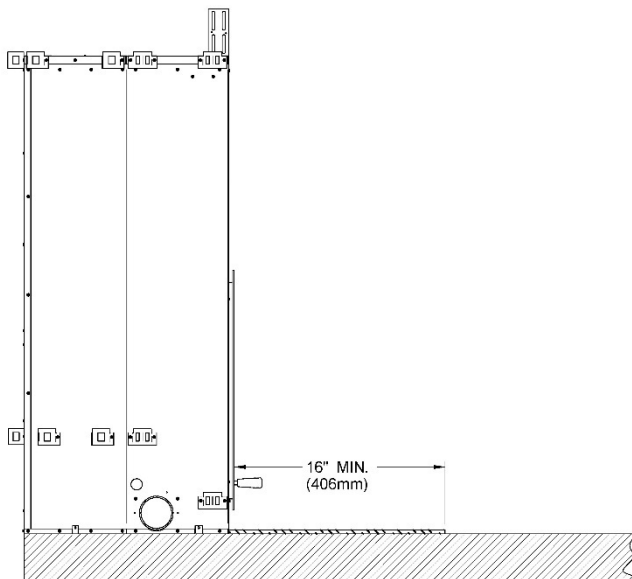
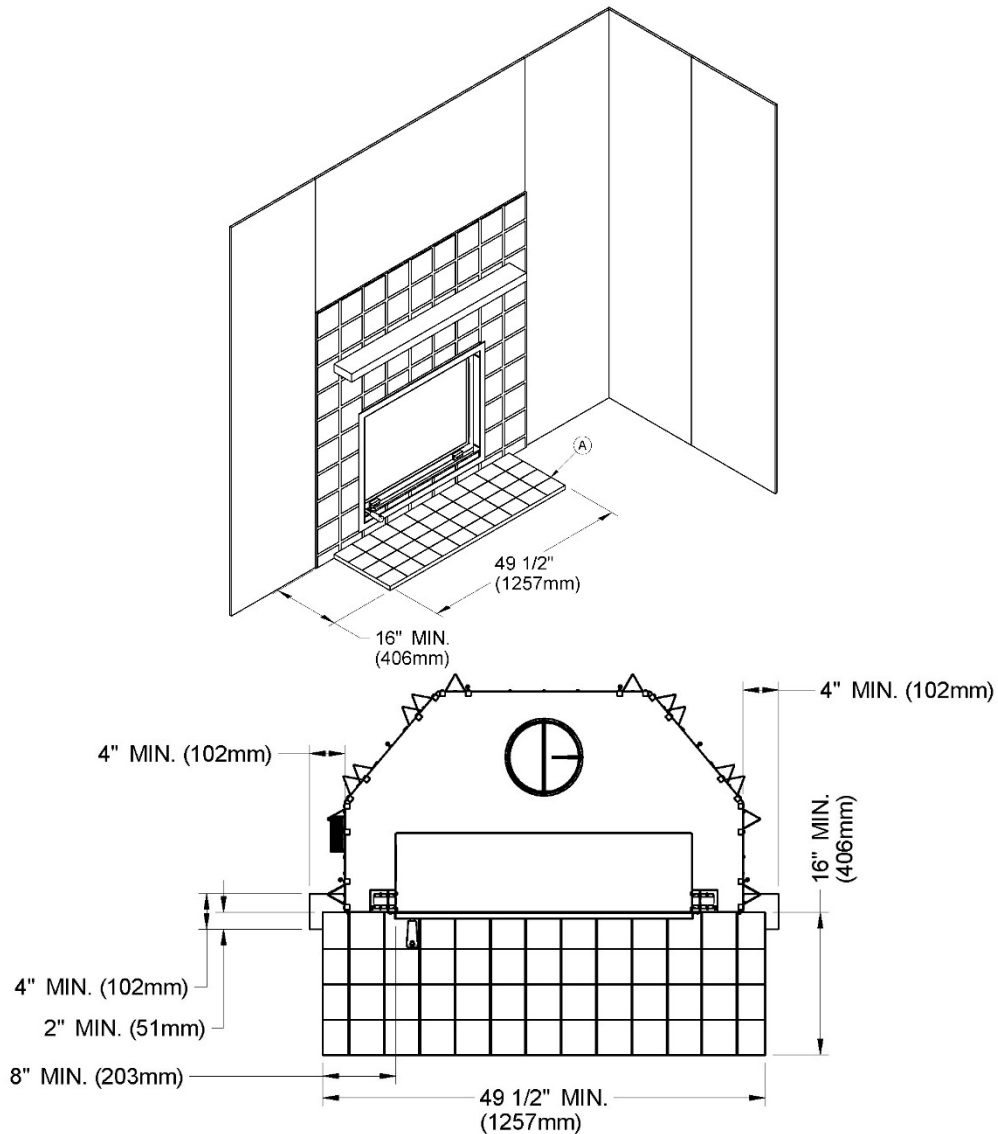

Figure 8 Installation on raised base
Figure 10
The hearth extension floor area (see (A) on Figure 10) must extend at least 16" (40 cm) in front and at least 8" (20 cm) on each side of the door opening (see Figures 8 and 10). The joint between the hearth extension and the fireplace hearth needs to be made of non-combustible material such as sheet metal or sand-cement grout (not included) as shown on **Figure 11**.